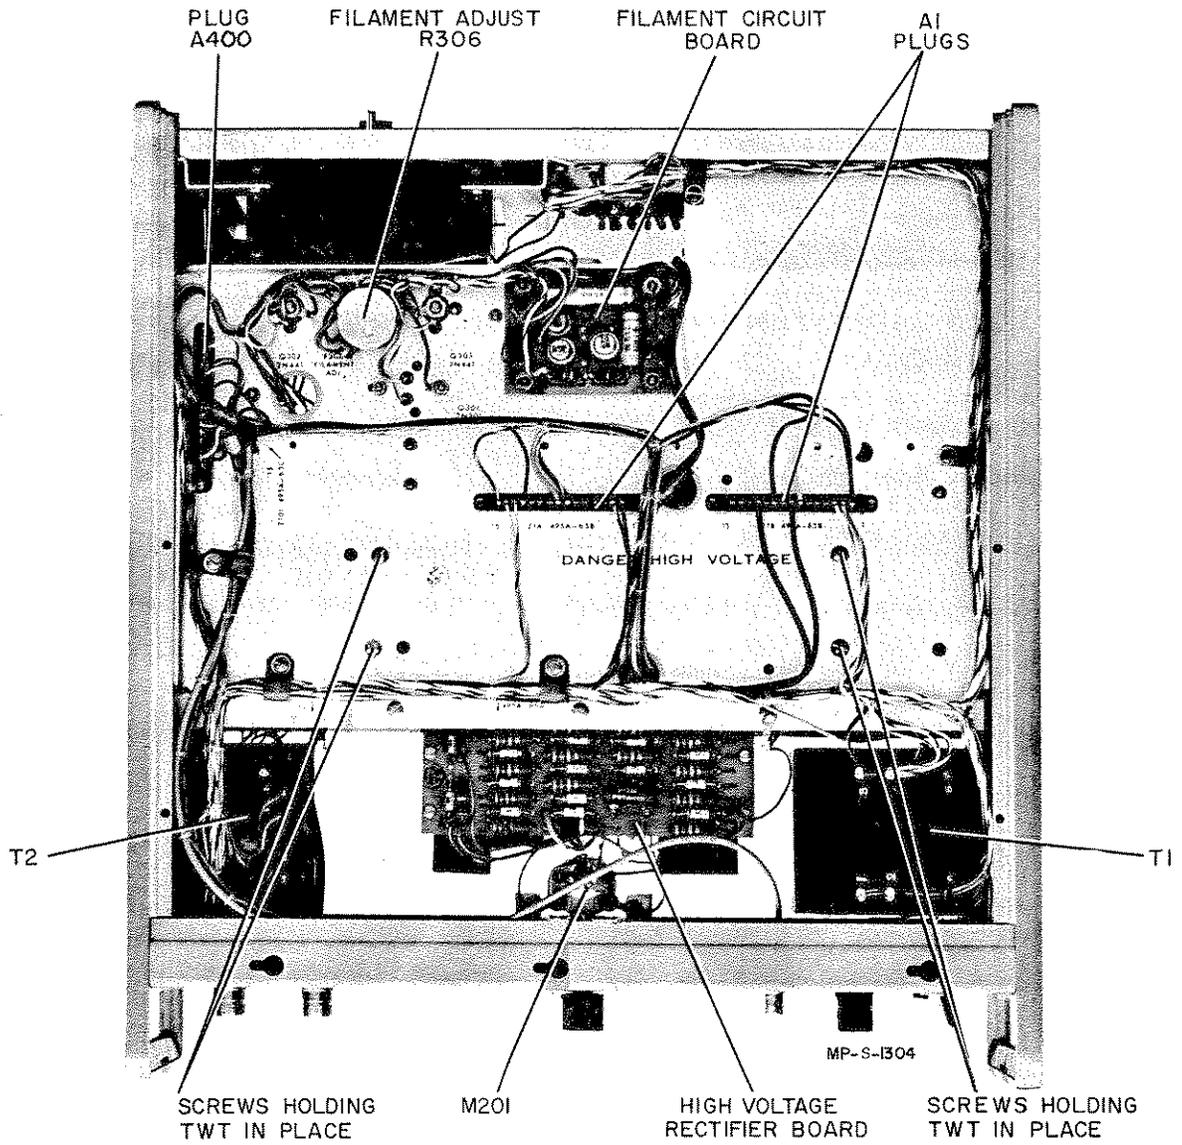

Figure 5-4. Model 493A Bottom View
- h. Place instrument on its side and remove four screws holding twt to main deck (see Figure 5-4).